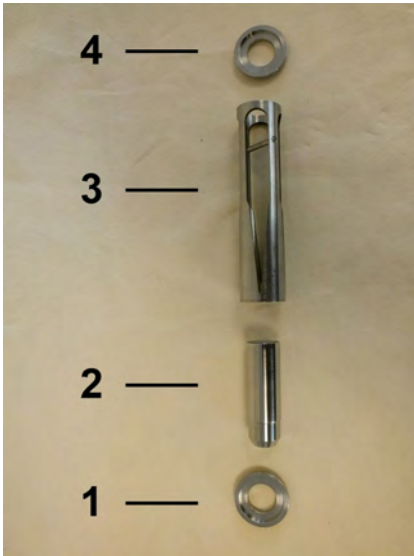

Fig. 47: Inner parts
6. ➤ The inner parts of the flow monitor consists of the centering disc (inlet) (Fig. 47/1), float (Fig. 47/2), slot nozzle (Fig. 47/3) and centering disc (outlet) (Fig. 47/4).